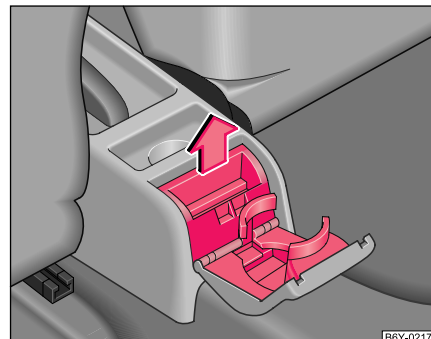

Fig. 66 Centre console: Ashtray at the rear
- Fold out the ashtray cover and pull out the ashtray insert in the direction of arrow ⇒ fig. 66.